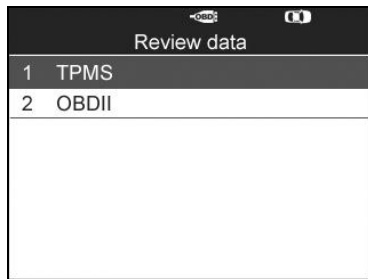

Figure 7.1
Use the **UP/DOWN** and **LEFT/RIGHT** scroll button to select **Review Data** from Main Screen (Figure 3.1), and wait for the review data menu to appear.(Figure 7.1)
- 1) Use the **UP/DOWN** scroll button to select **TPMS** or **OBDII** from **Review Data** and press the **Y** button. (Figure 7.1)